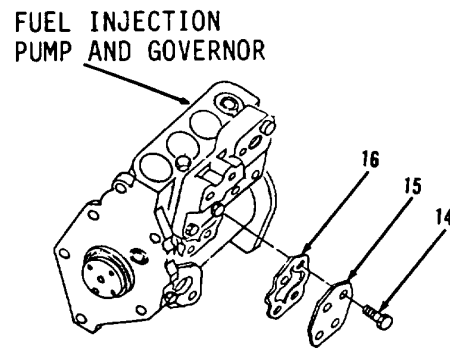

Figure 3-86.
1. Remove four bolts (14), cover (15) and gasket (16, Figure 3-86). Discard gasket (16). Remove all gasket material from mounting surfaces.